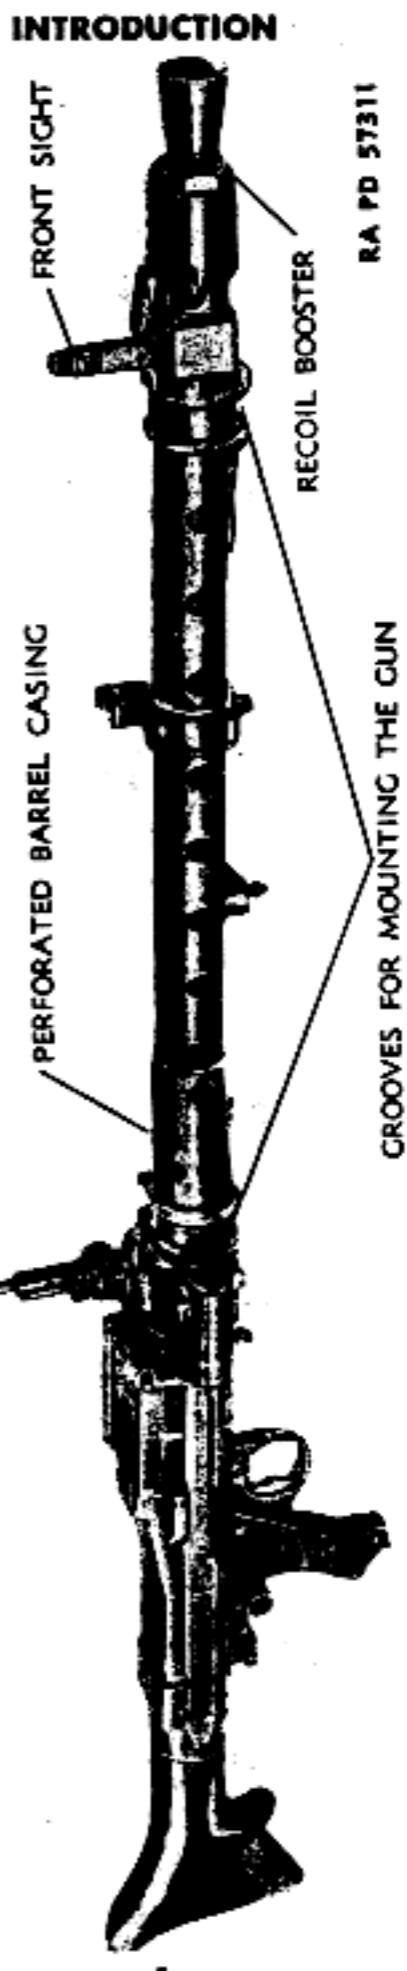
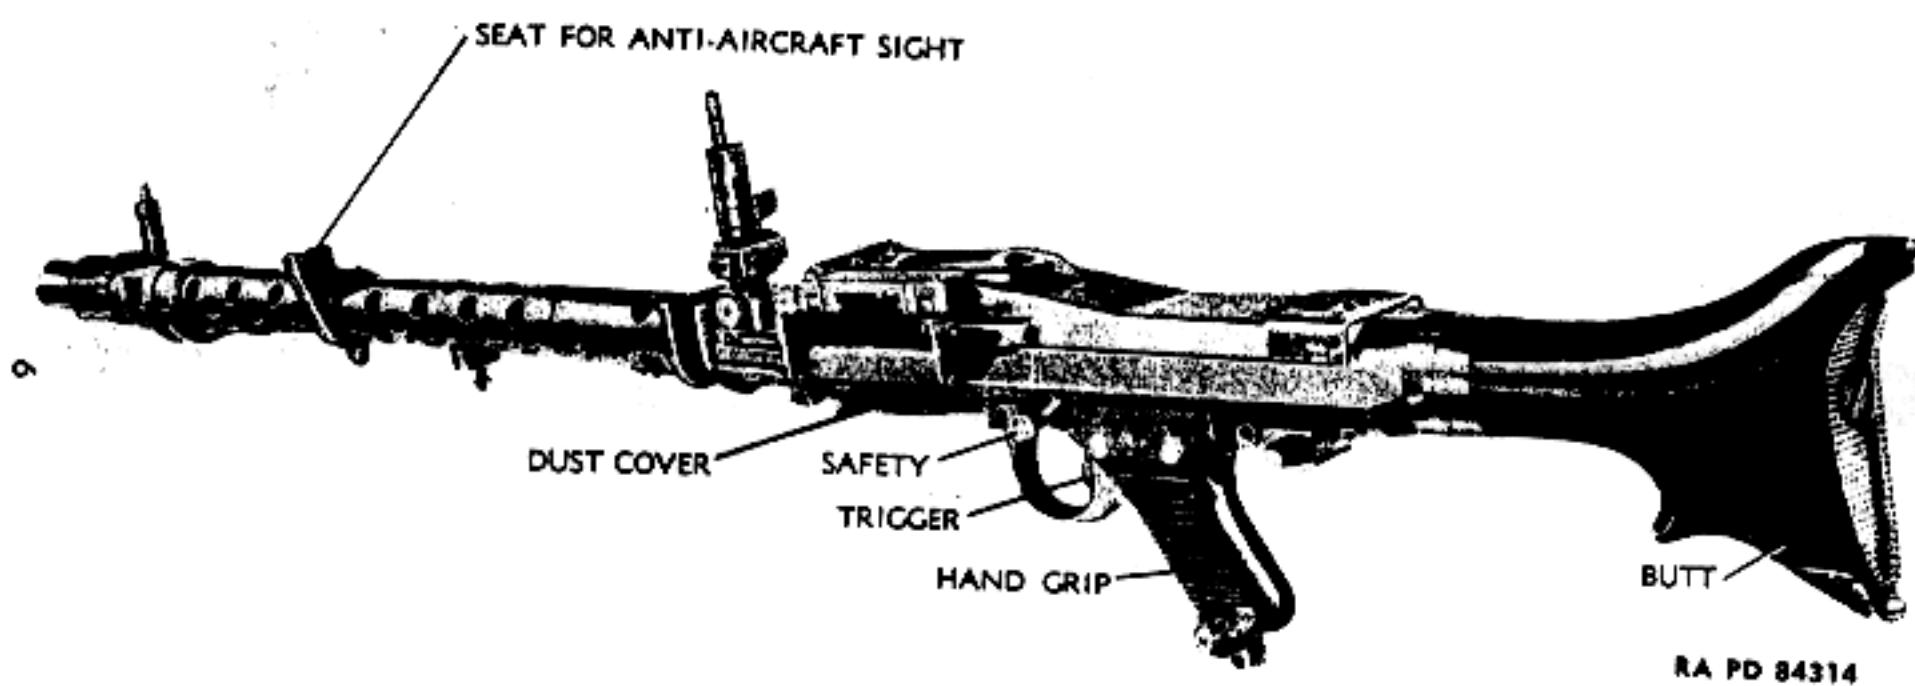
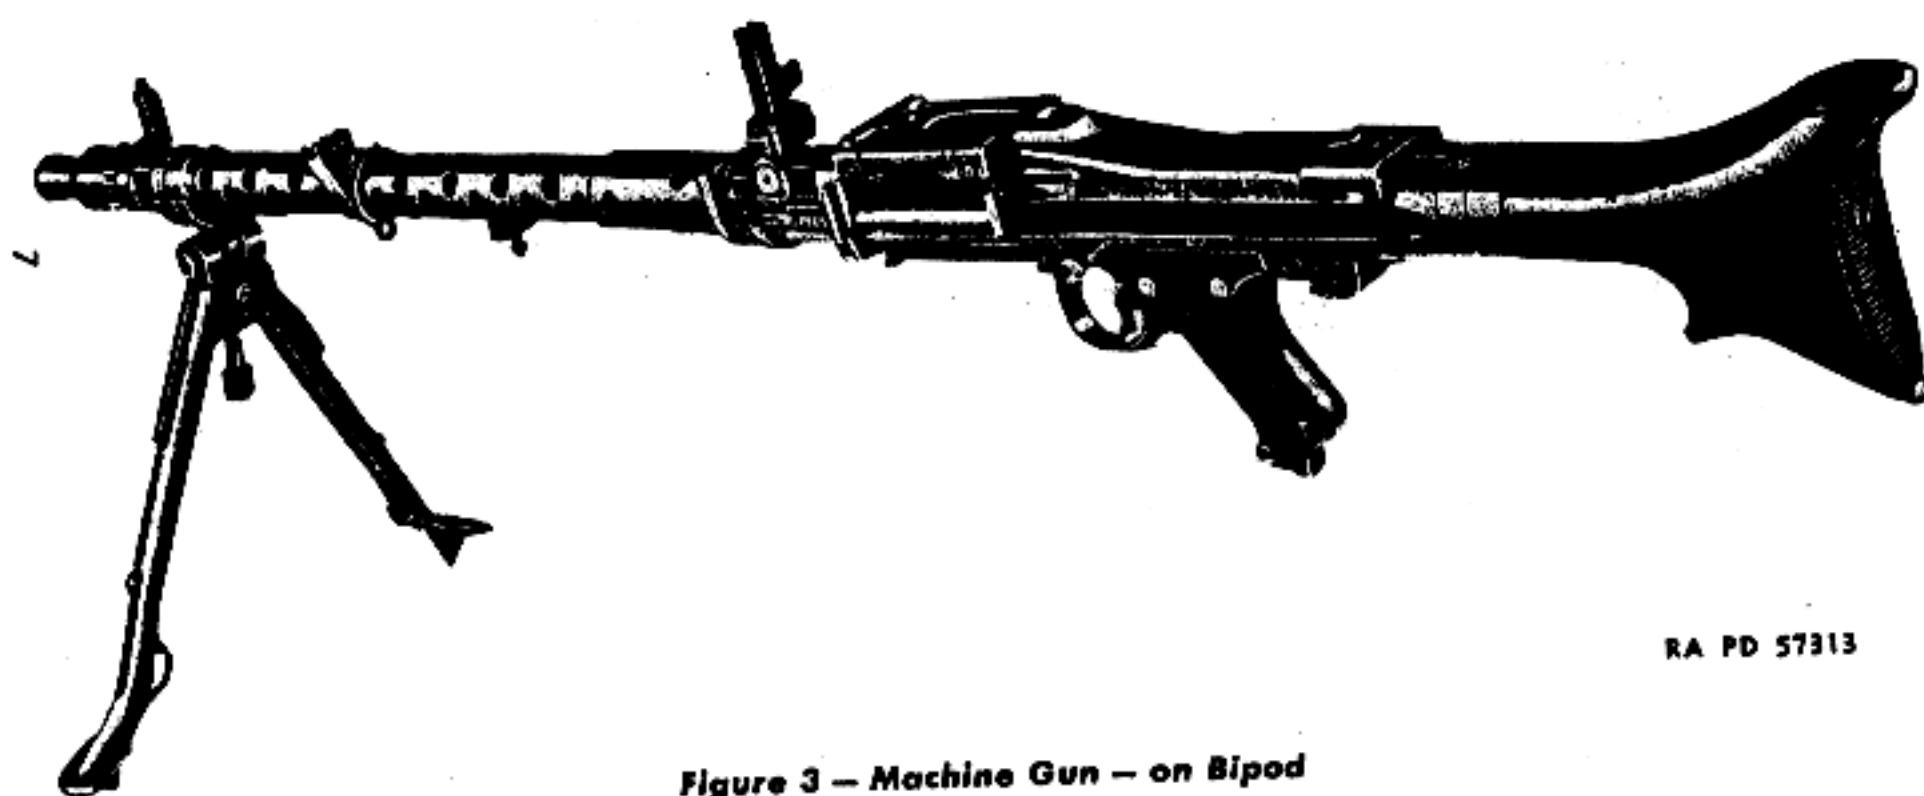
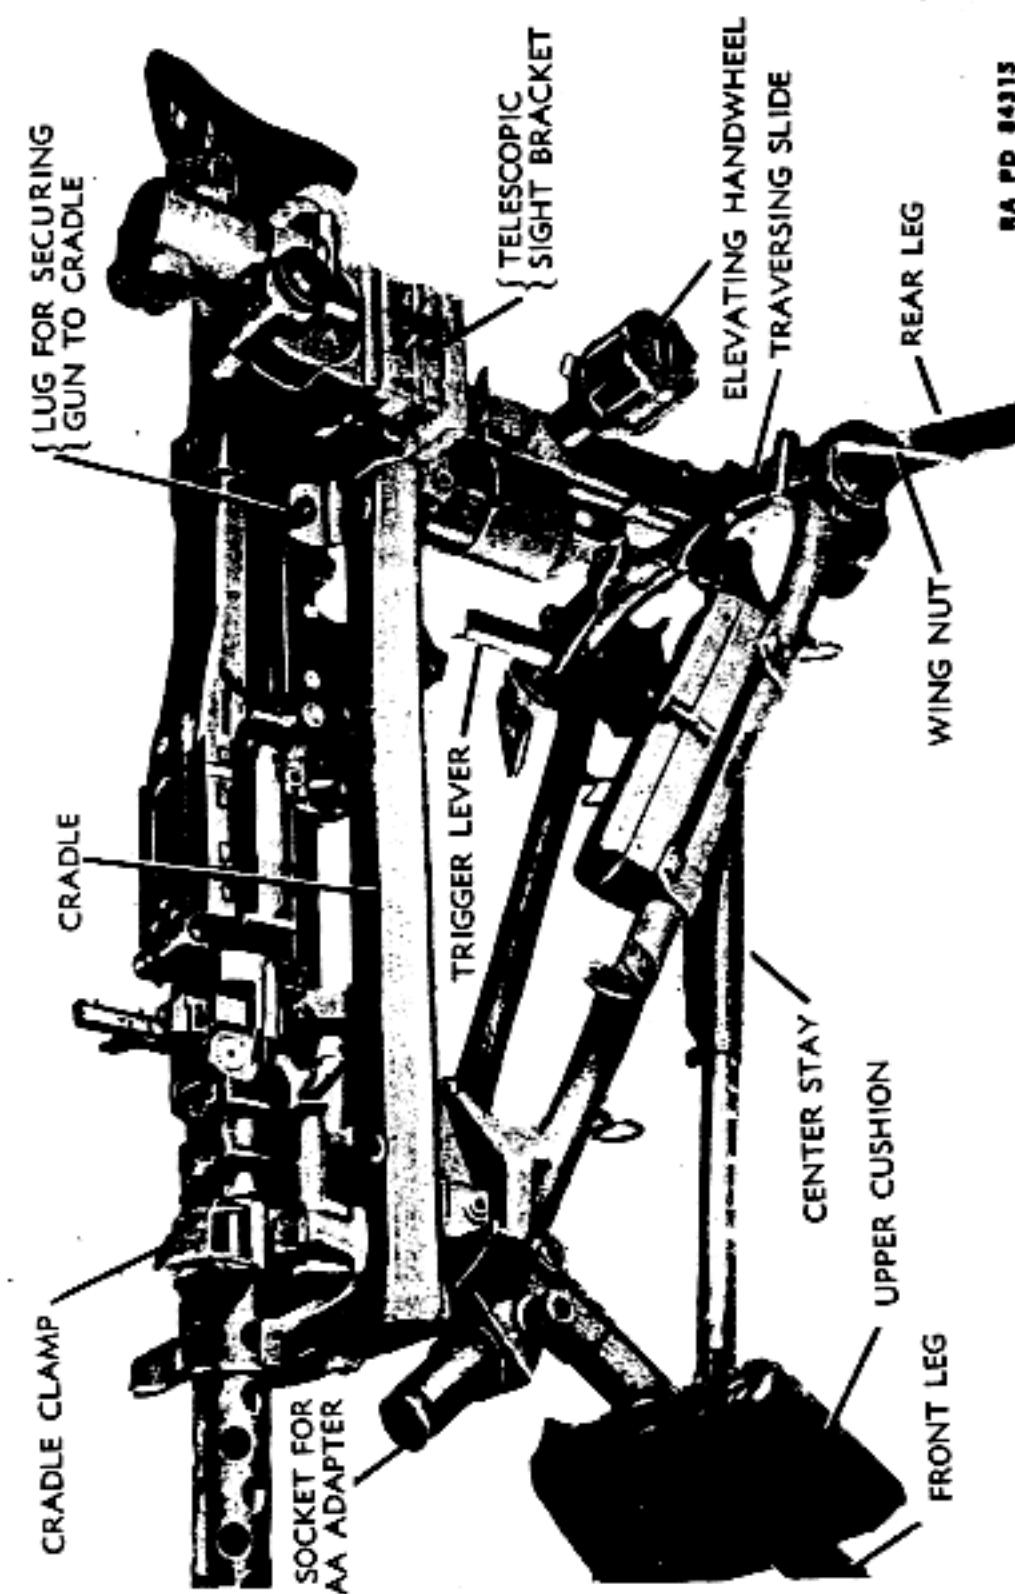

Figure 1 — German 7.9-mm Dual Purpose Machine Gun MG34 — Right Side View
Figure 2 — German 7.9-mm Dual Purpose Machine Gun MG34 — Left Side View
Figure 3 — Machine Gun — on Bipod
Figure 5 — Machine Gun — on Tripod Mount
a. The German 7.9-mm Dual Purpose Machine Gun MG34 is a recoil-operated, air-cooled weapon capable of delivering single or full automatic fire. The gun is normally fed from 50-round flexible, metal belts, two or more of which can be joined end to end. However, in operations where rapid movement is required, or for antiaircraft fire, a 50-round belt drum magazine or a 75-round spring-operated drum magazine is used. The gun can be identified easily by the recoil booster (fig. 1), perforated barrel casing (fig. 1), grooves for mounting the weapon (fig. 1), front and rear sights (fig. 1), seat for the antiaircraft sight (fig. 2), hand grip with trigger and safety, dust cover (fig. 2), and fin-shaped butt (fig. 2). It can be used on a bipod (fig. 3), on an antiaircraft tripod (fig. 4), or on a tripod mount (fig. 5).
- d. The mechanism of the gun is very sensitive to dust or sand. When the gun is not in action, keep the dust cover (fig. 2) on the ejection opening closed.
d. On Antiaircraft Adapter of Tripod Mount. For antiaircraft fire from the tripod mount, an adapter is secured in the short tube near the swivel (fig. 5). The adapter is similar to the adjustable support at the top of the tripod. The gun is mounted on the adapter as on the tripod. The cradle must be folded when the adapter is used and the adapter should be in a vertical position.